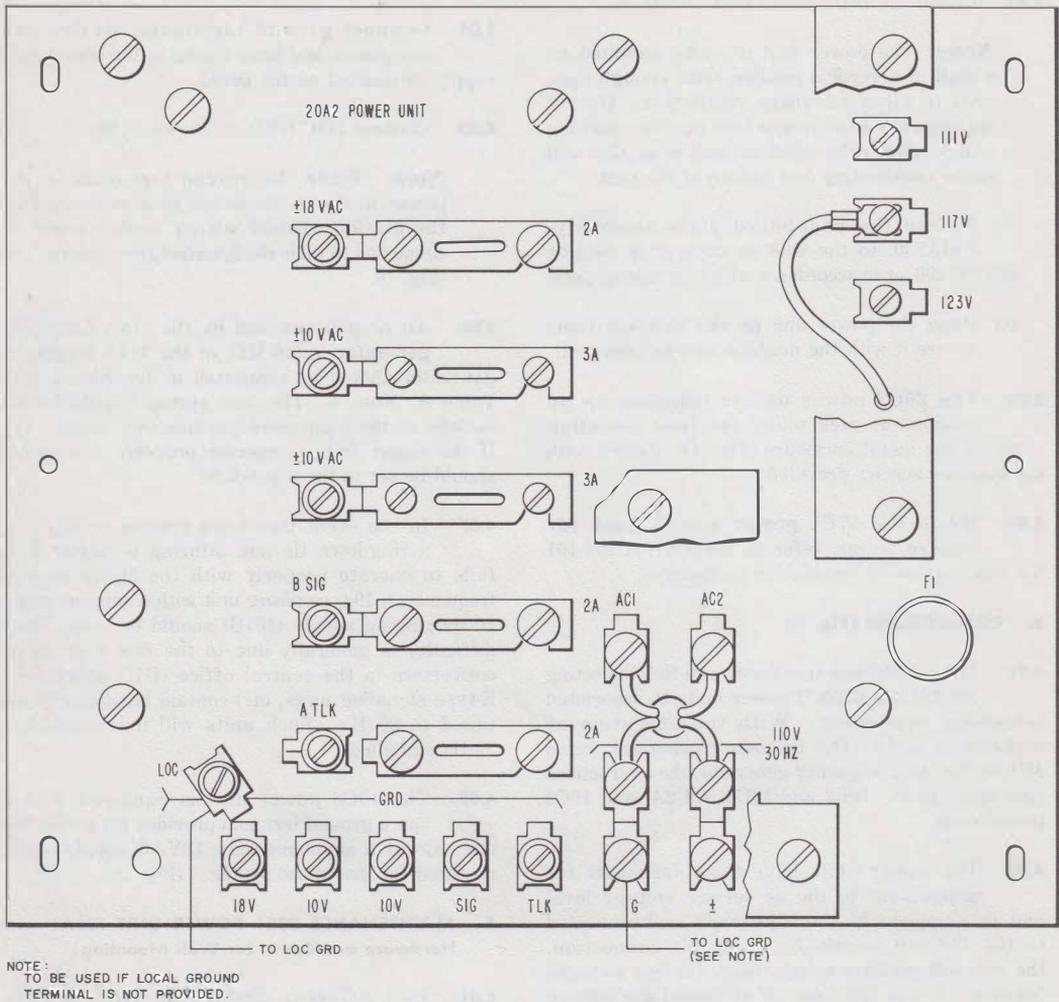

Fig. 5—Wiring Connection for 20A2 Power Plant
4. CONNECTIONS (Fig. 5)
4.05 Connect LOC GRD as shown in Fig. 5.
Note: While the ground terminals on the power unit are connected to a common bus, the station ground wiring leads should be connected to their *designated* ground terminals (Fig. 5).